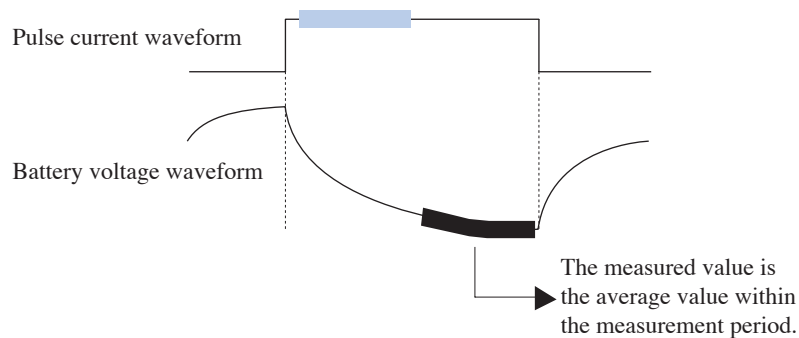

Fig. A-8 When the Voltage is Fluctuating during the Measurement Period
- If the battery voltage fluctuation is large with respect to the change in the pulse current as shown in Fig. A-8, the measured voltage returns an average value within the conversion period.